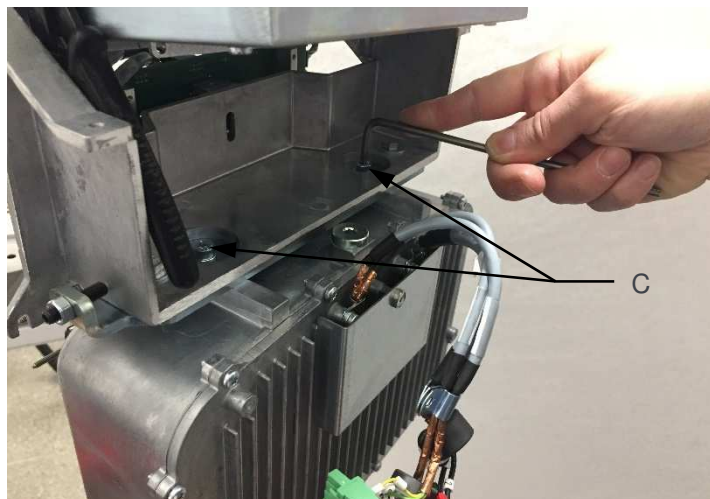

Figure 51
7. Mount the new tubehead, taking care to push it with one hand in the direction of the sensor while tightening the screws “C” (Figure 51).
13. In case the beam is not centered to the sensor, loosen the screws “C” (Figure 51) and act on screws “D” and “E” (Figure 54) following the convention reported below: